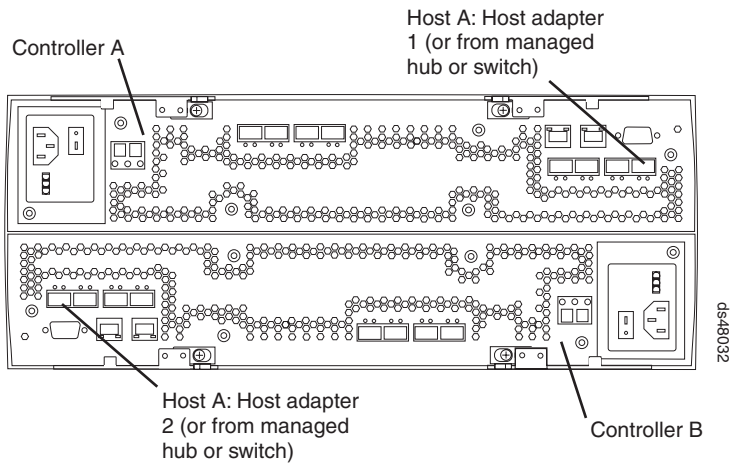

Figure 58. Location of host cables on RAID controllers
2. Connect the fibre channel cables from the SFP modules in the DS4800 RAID controller host ports to either the SFP modules in the fibre channel switch or the SFP modules of the host bus adapters. Figure 58 on page 80 shows the location on the RAID controllers where the host-system cables connect.